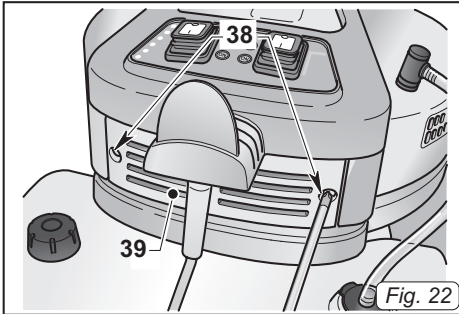

Fig. 22
- Loosen the screws (38 Fig.22) and remove the cover (39 Fig.22)